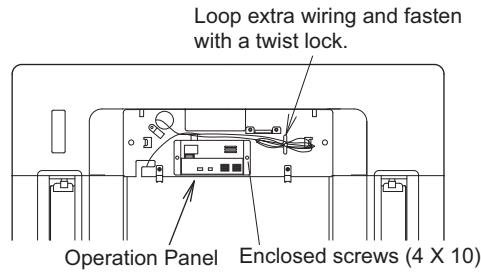

Fig. 8-20
- (2) Fasten the operation panel to the location in the diagram below with the 2 enclosed screws (4 X 10). (Fig. 8-20)
- (3) Pass the wiring for the display (W2, 6P white connector) through the back of the panel.
- (4) Attach cover A.
- (5) Properly route the lead wire of the operation panel and fasten it with the twist lock. (Fig. 8-20)
- (6) Install the ceiling panel.